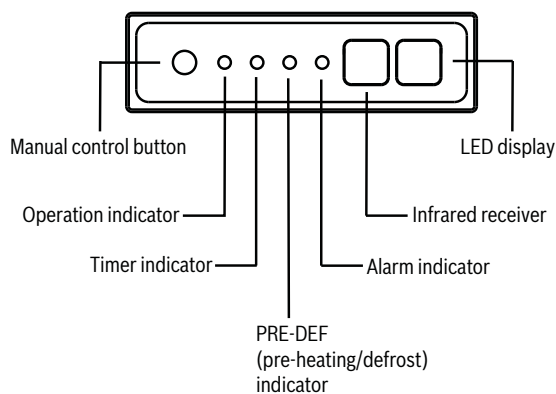

Figure 4
1. Locate the **MANUAL CONTROL** button on the left-hand side of the display board (Figure 4).